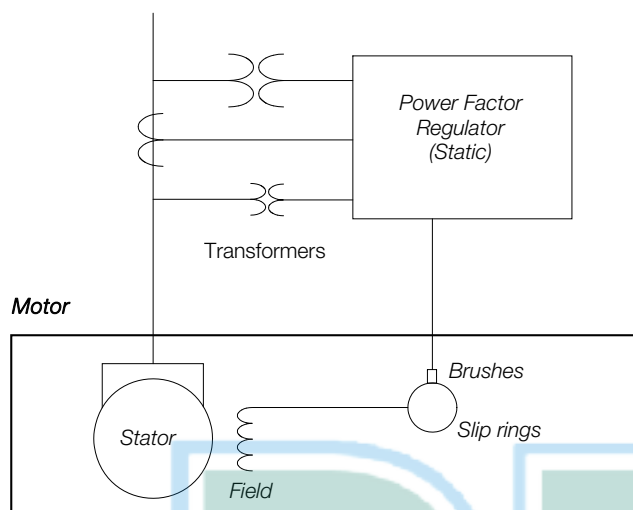

Figure 4.5: General connection diagram (synchronous motor with brushes)
- Figure 4.5 shows the single line connection diagram of a synchronous motor with brushes.